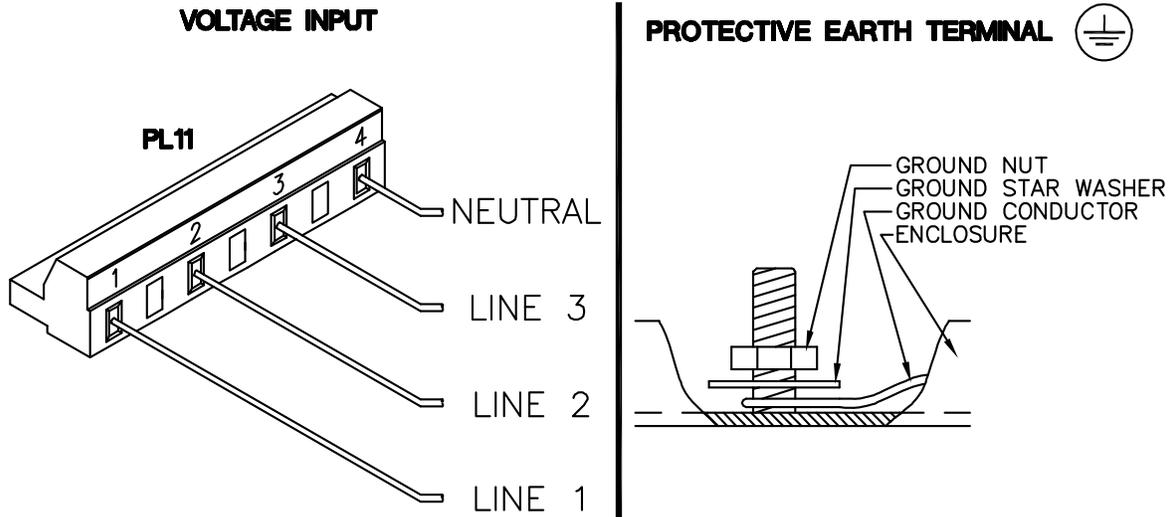
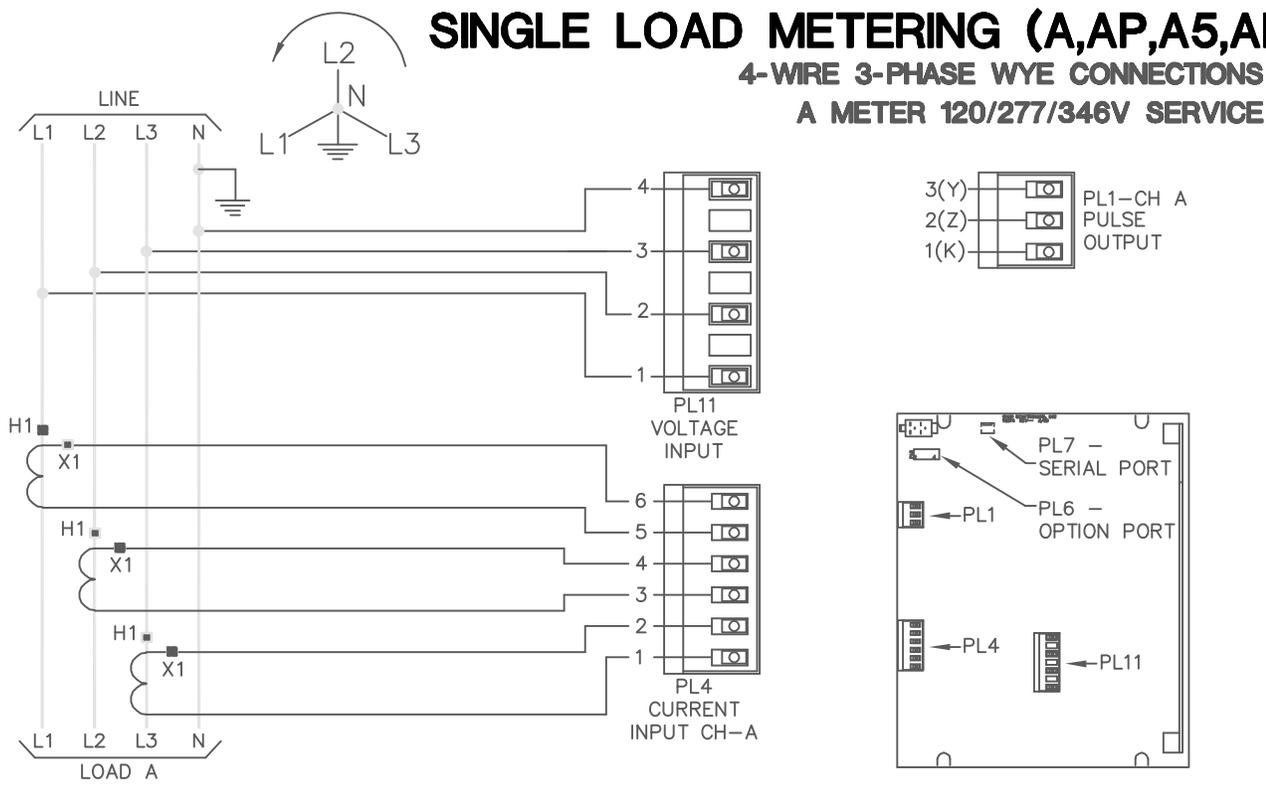

FIGURE 1
FIGURE 5
6. Connect voltage leads to the four position connector PL 11 as shown in Figure 1. Label each set of CT leads with the load/tenant ID. Connect single load meter CTs to PL4 (PL5 not used). Two load meters use PL4 and PL5. See Figure two for CT connections and polarity. Use Figures 5, 6, 7 and 8 for load connections.